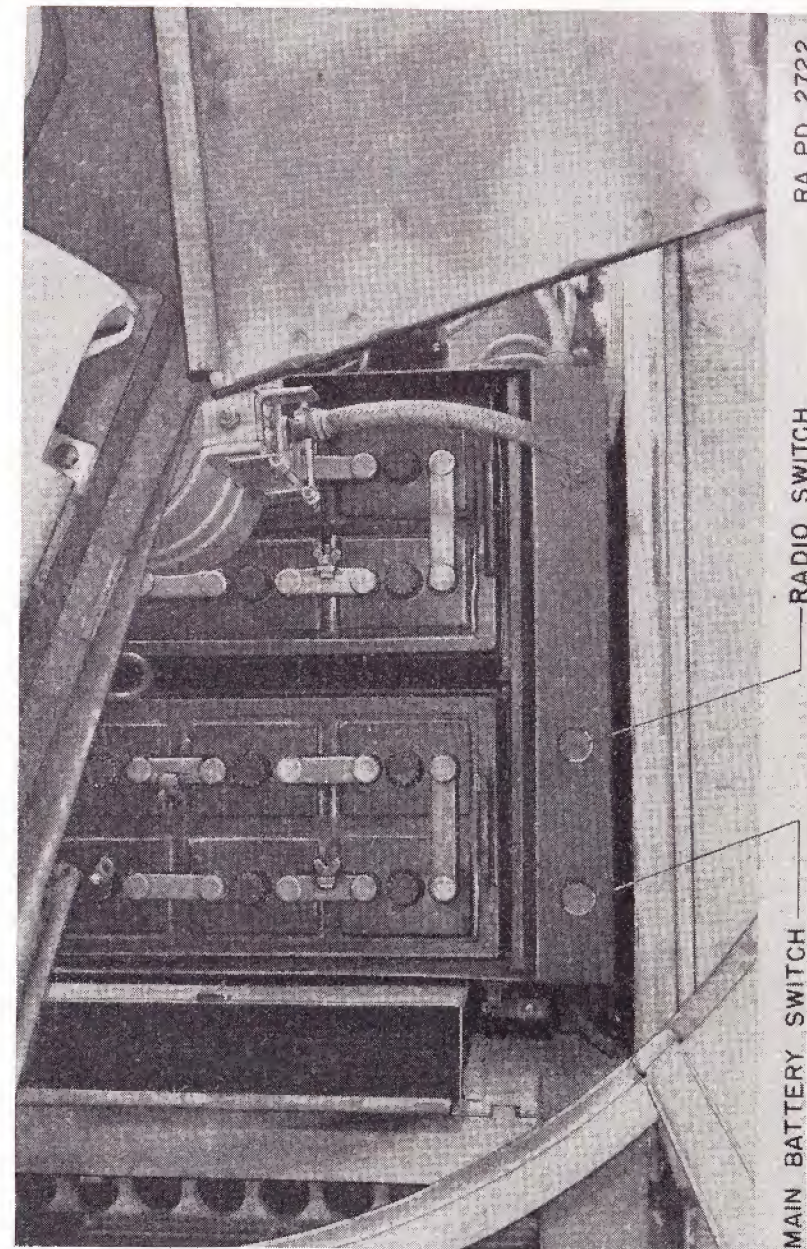

FIGURE 59.—Battery location viewed through turret floor opening.
101. Battery (fig. 59).—*a. Description.*—Two 12-volt storage batteries are connected in series to maintain the voltage of the system
c. Removal and replacement.—(1) Open the main battery switch (fig. 59).
- (2) Disconnect the battery cables (check legibility of markings).
- (3) Remove the bracket hold-down bolts.
- (4) Remove the battery through the opening in the turret floor.
- (5) Replace in reverse order.
102. Battery switch (fig. 59).—*a.* The battery switch is mounted on the left side of the battery box and is provided to cut off the battery current at its source. A second switch is also provided in the same box for cutting of the radio circuit. To open either circuit, raise the knobs.